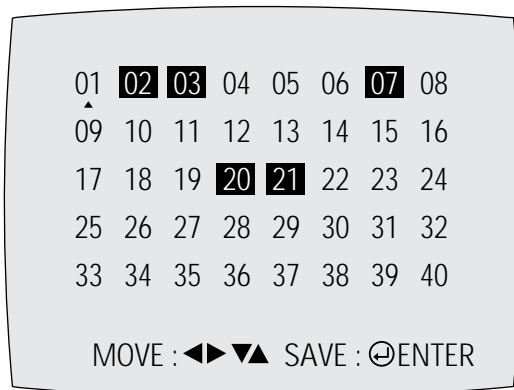

Fig. 2-3
- 2) Press the “1, 4” button on the remote control. The option setting appears. (See Fig. 2-3)